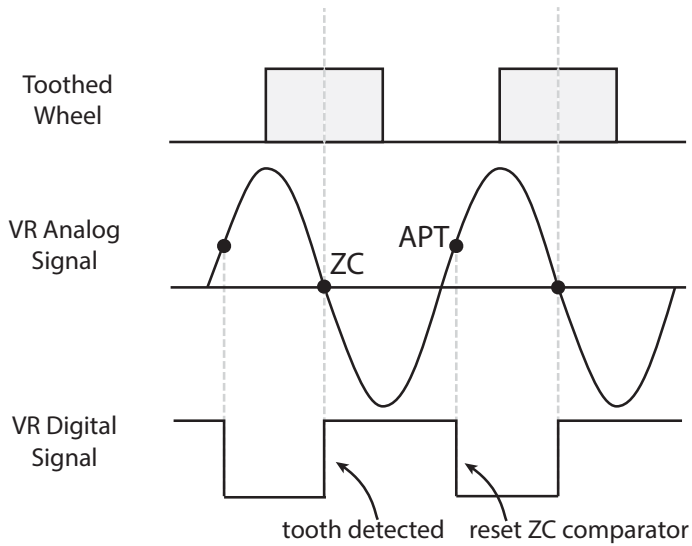

Figure 2-2 Example VR Sensor Signals
When a tooth rotates past the sensor, the distance between the wheel and sensor changes, changing the magnetic flux through the pickup coil. An AC voltage is induced across the coil as shown in **Figure 2-2**. In the default polarity, voltage is positive when the tooth approaches the sensor and negative when the tooth moves away. Notably, the positive-to-negative zero crossing coincides with the center of the tooth.
A VR interface board reads in the analog waveform and conditions it into a digital signal (**Figure 2-2**). The digital signal goes high when a positive to negative zero crossing (ZC) is detected and resets to low when the signal level rises above a certain threshold. Therefore, rising edges of the pulse train correspond to tooth detections. The pulse train feeds into a digital counter/timer which measures the number of teeth and the time between teeth. Raw data can then be used to calculate shaft properties such as rotational speed, acceleration, position, and torque.
threshold to determine when *cout* should be dropped. The peak threshold allows the comparator to ignore zero crossings due to noise. The resulting digital output signal is illustrated in **Figure 2-2**.